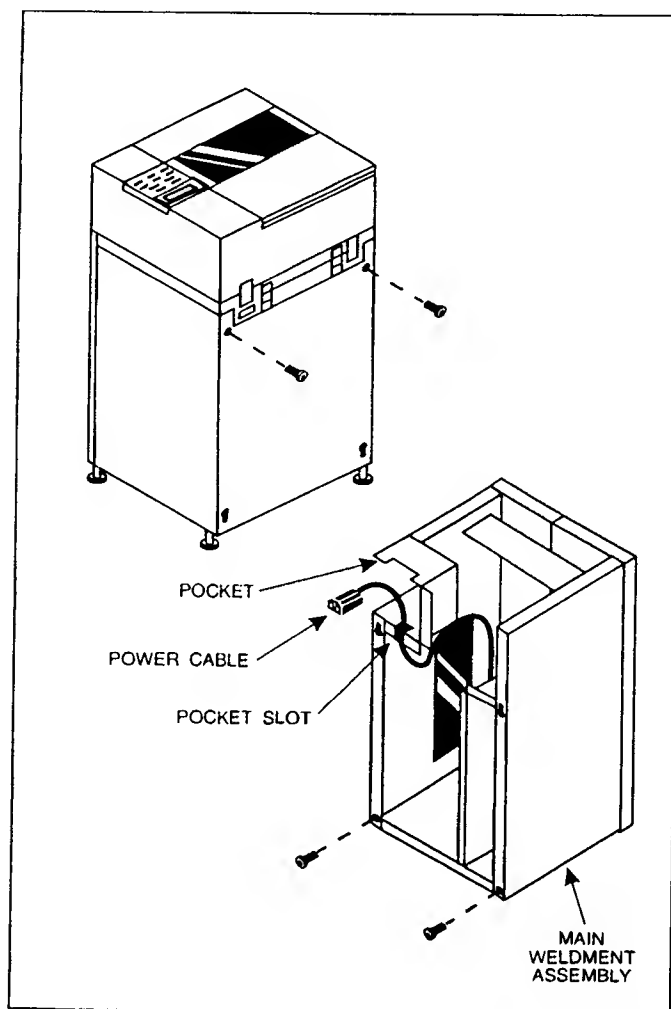

Figure 2-14. Starting the screws in the Main Weldment Assembly and the Printer.
- a. Start the two screws in the bottom of the main weldment assembly, and the two in the top of the printer stand. Use a #2 Pozidrive screwdriver to start the four screws (Figure 2-14).